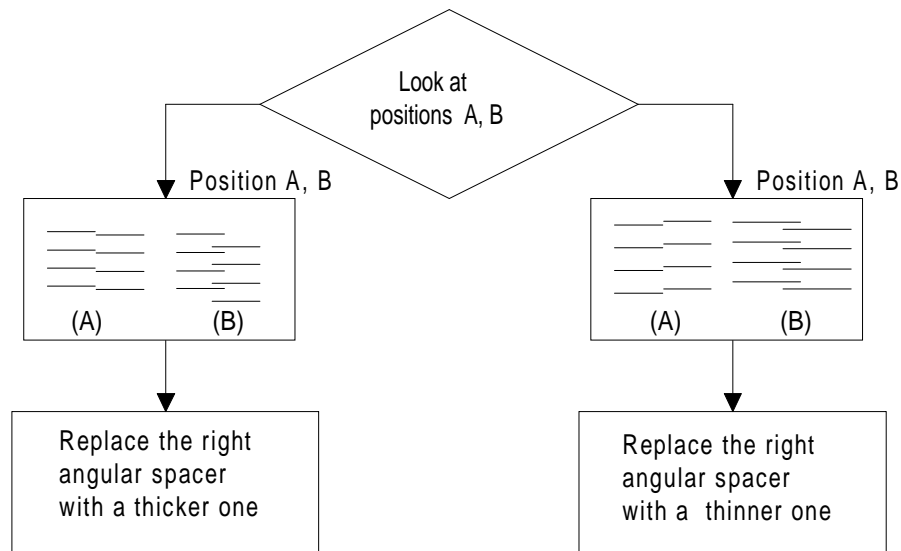

Figure 4-11. Spacer Selection
11. If the sample is incorrect, repeat steps 6-10 until the upper lines in the sample are aligned with one another and the lower lines in the sample are exactly equidistant to one another (as shown at B in Figure 4-11).